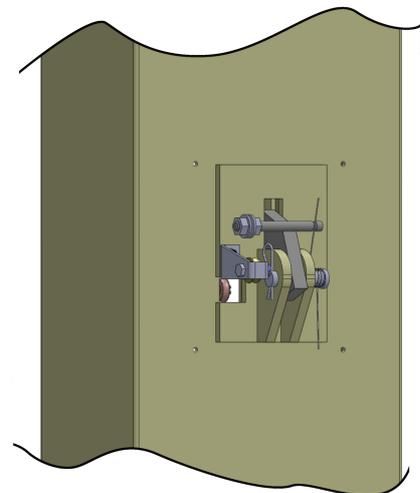

**Fig. 17**
**G. Install safety Lock (See Fig. 17 & 18)**